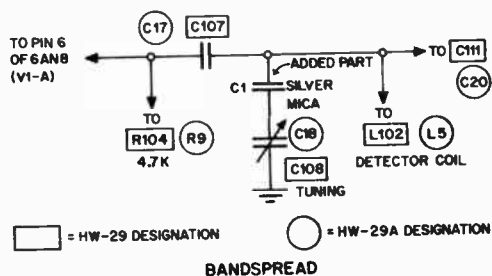
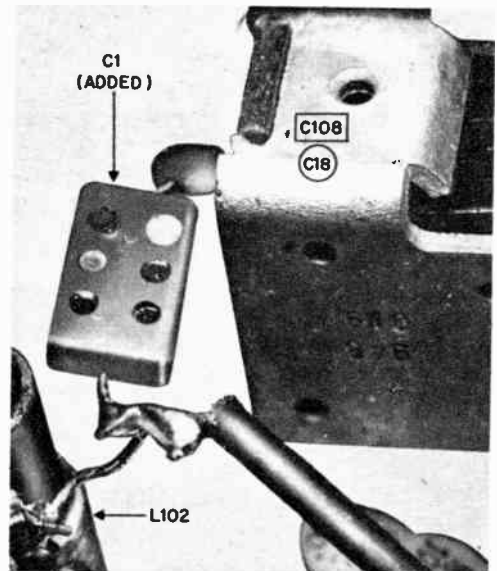

Fig. 2—A 10-mmf capacitor in series with tuning capacitor spreads half the band over entire dial.
Fig. 5—Bandspread modification. Leads formerly going to C108 (C18 in HW-29A) are connected to one side of C1. Other side of C1 goes to C108.
• **Bandspread.** Since almost all activity is on the first two megacycles (50-52 mc) of the 6-meter band, which extends from 50-54 mc, bandspread will eliminate coverage of the dead upper half of the band. The modification requires a capacitor be installed (C1, Figs. 2 and 5) in series with the existing tuning capacitor (C108 in the HW-29, C18 in the HW-29A). By using a 10-mmf capacitor for C1 you can reduce the receiver tuning range to about 1.7 mc, anywhere in the band. This effectively doubles the area that a selected portion of the band will occupy on the dial. Station tuning will now be less critical. If you don't want to spread the band out that much on the dial, use a 15-mmf capacitor for C1. For more bandspread, use a 7-mmf capacitor. Install C1 as shown in Fig. 5 between C108 (C18 in the HW-29A) and detector coil L102 (L5 in the HW-29A). Readjust the slug of L102 so 51 mc falls at about the 52.3-mc mark on the dial. If C1 is 10 mmf, the receiver